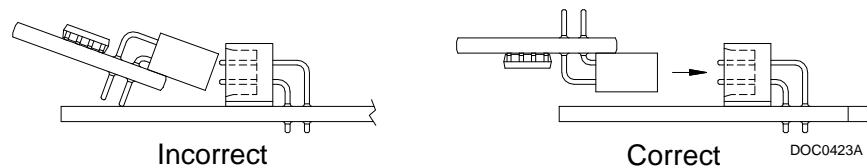

Figure 2. License Key Installation
6. Press the license key into the terminal until it is firmly seated (refer to Figure 2).